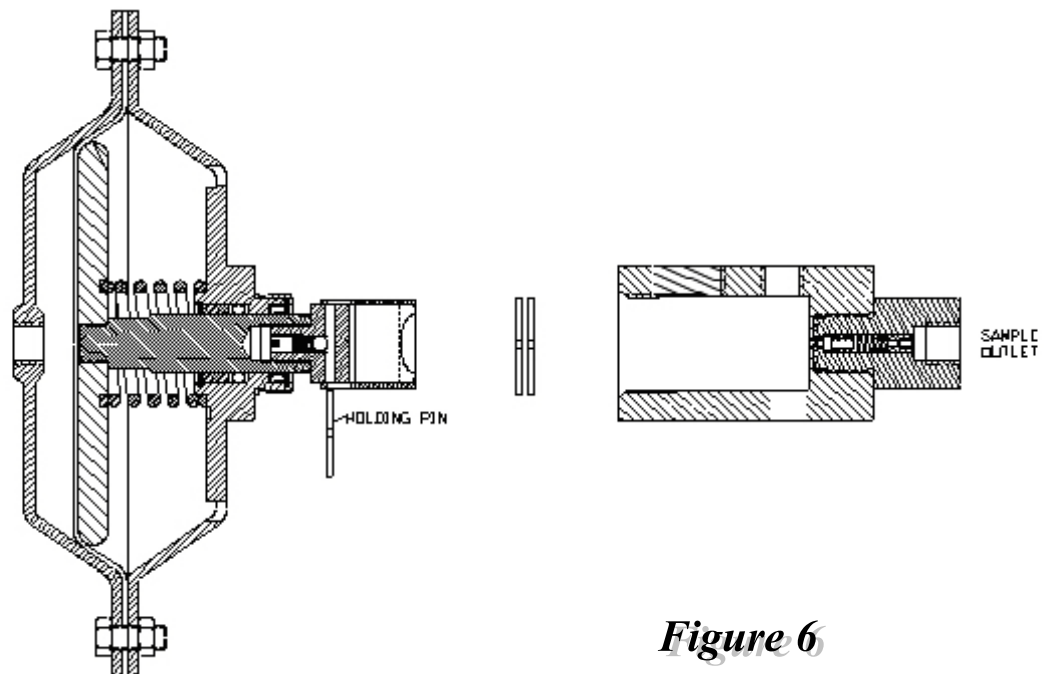

Figure 6
4. Unscrew the complete diaphragm housing from the sampler body (see Figure 6).
5. To replace the collection head (Part 18), push the holding pin out (Part 21), it is held in place by spring tension, and slip the shield (Part 19) off the shield/shaft adapter (Part 2). Push the collection head out of the shield. The non-extrusion disc (Part 20) will come out first and does not need to be replaced if it is in good condition (see Figure 6).